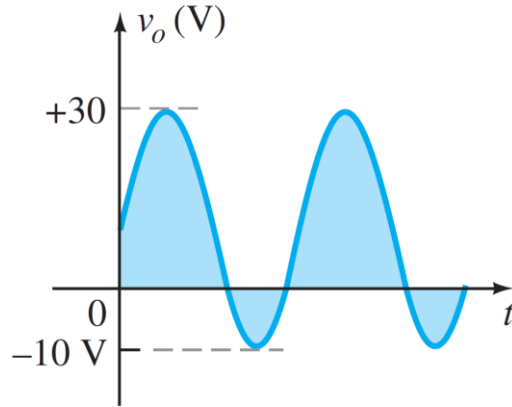

Figure 8
Step 3: redraw the input signal with positive shift equal to $V_m - V_B$ as shown in Figure 8.